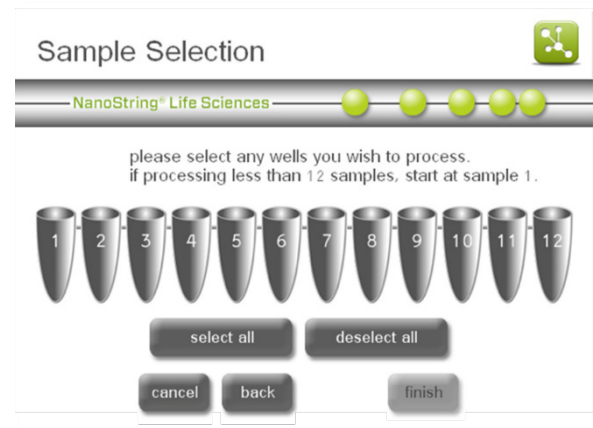

Figure 138: The 'Sample Selection' screen.
- The 'Sample Selection' screen will appear (Figure 138). After selecting the samples to be processed, press **finish**.